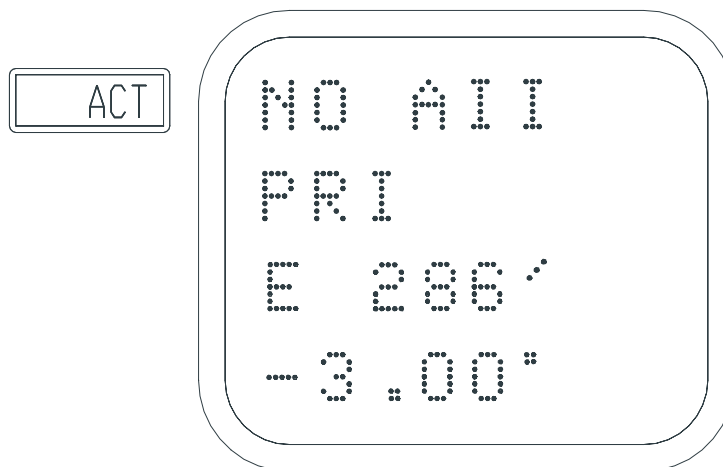

Figure 3-12:
- “NO AII” shows on the HCP ACT line (Figure 3-12).